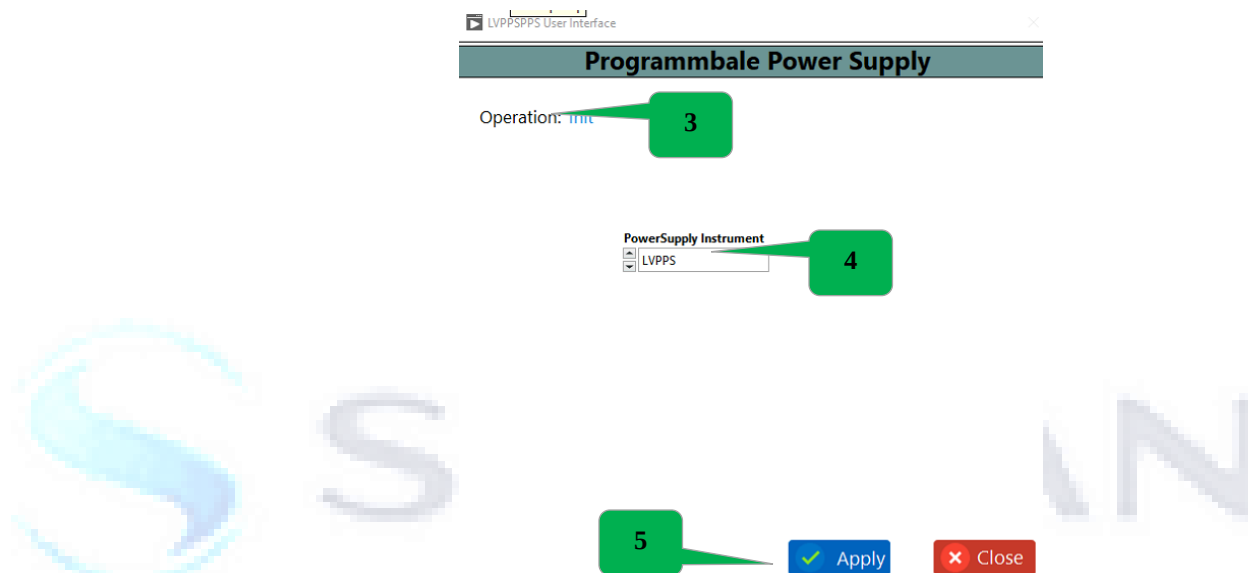

Figure 65: LV PPS Initialize
- 3) Click the PPS Init and Refer Fig 65.